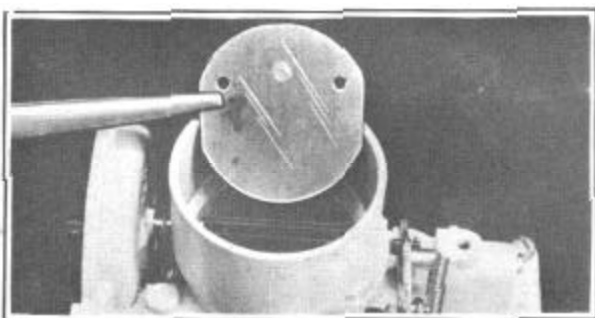

FIGURE 44
26. Install choke valve, Figure 44. Center choke valve on shaft and in bore by tapping lightly. Hold in place with finger while tightening screws. Peen ends of screw threads to keep screws from loosening.